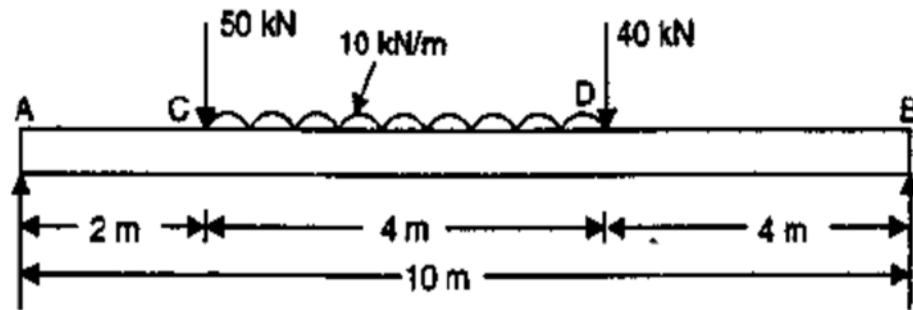

Figure 3
13. (a) A simply supported beam of length 10m carries the uniformly distributed load and two point loads as shown in Fig. Draw the S.F and B.M diagram for the beam as shown in figure 3 and also calculate the maximum bending moment. (16)